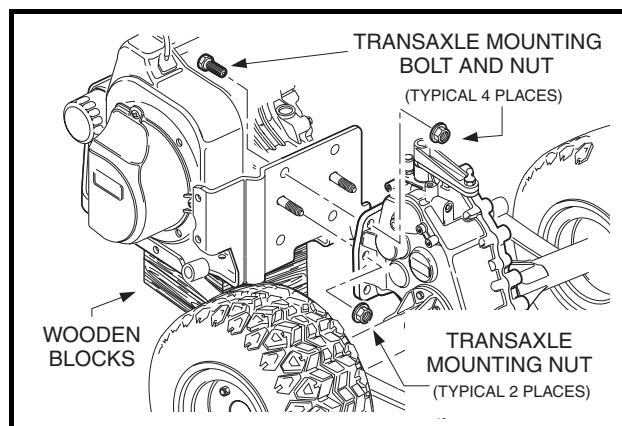

Figure 16-36 Transaxle Mounting
3. Position the transaxle mounting plate on the two mounting studs at the rear of the engine, and then install the two mounting nuts finger tight (Figure 16-36, Page 16-14).
5. Tighten the four corner nuts (with bolts) to 30 ft-lb (40.7 N·m). Tighten the two center nuts (on the engine block studs) to 17 ft-lb (23.1 N·m) (Figure 16-36, Page 16-14).